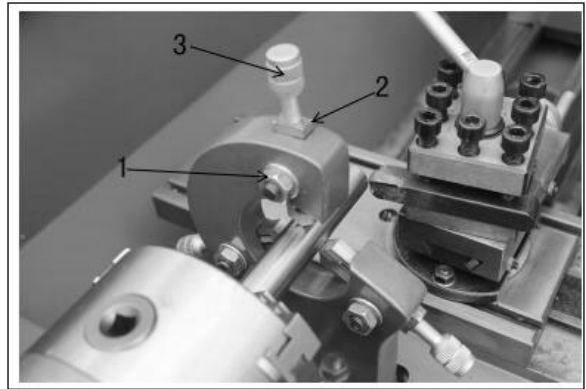

Figure 26
1. Loosen three hex nuts (1, Figure 26).
2. Loosen knurled screw (3, Figure 26) and open the sliding fingers (2, Figure 26) until the steady rest can be moved with its fingers around the workpiece. Secure the steady rest in position.
3. Tighten knurled screws so that fingers are snug but not tight against the workpiece. Tighten three nuts (1, Figure 26). Lubricate the sliding points with machine oil.